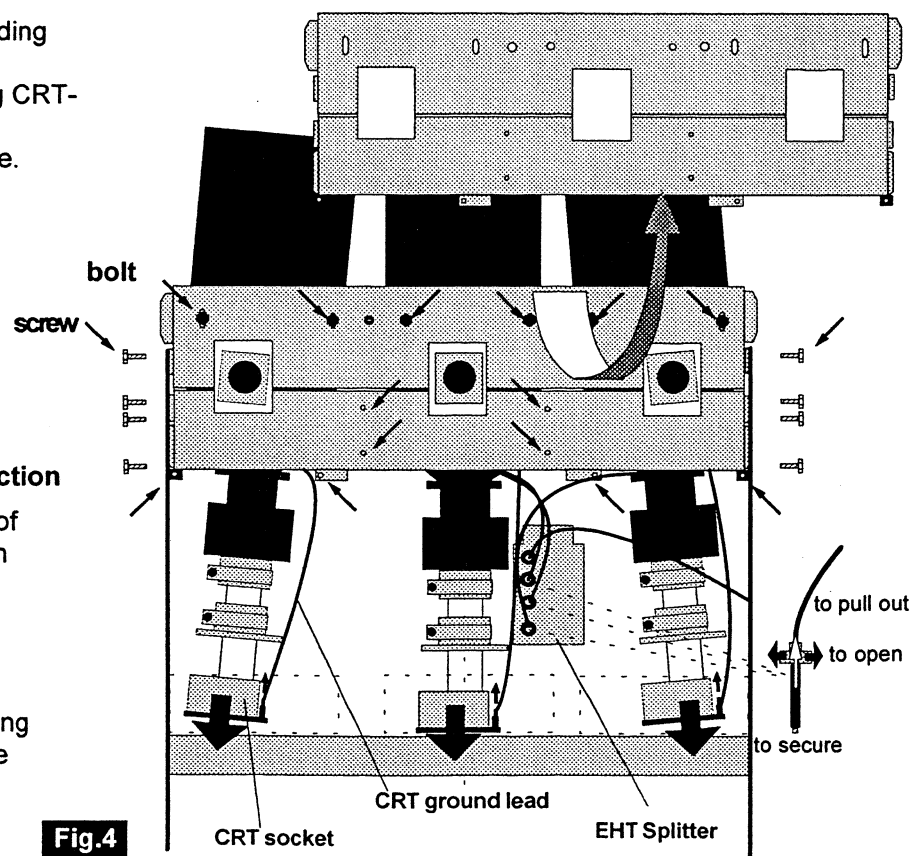

Fig.4
4. Remounting the upper metallic plate (fig 4)